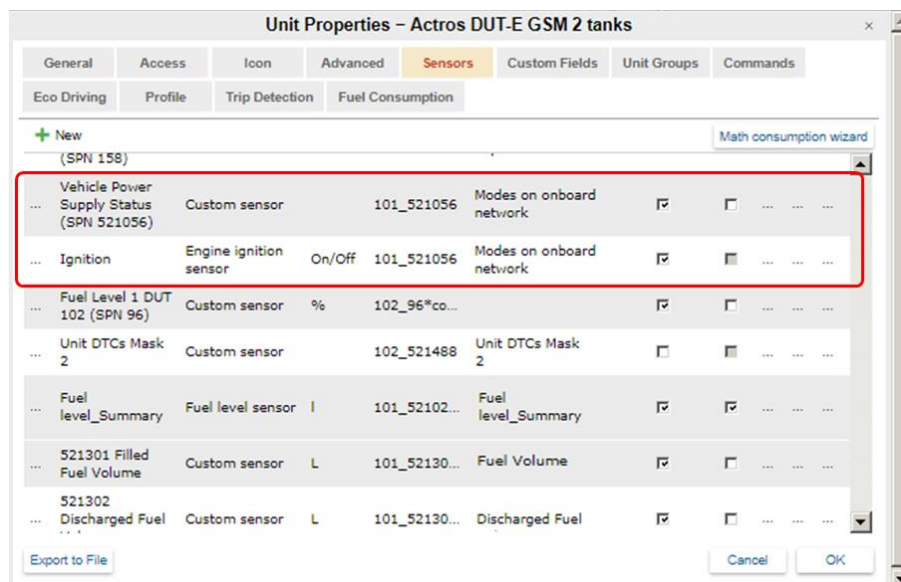

Figure 4 – Settings window of ORF 4 Unit Properties
4) Using Unit Properties menu in ORF4 telematics service or on Wialon server, create required sensors. As example – Vehicle power supply status, ignition sensor (see figure 4).